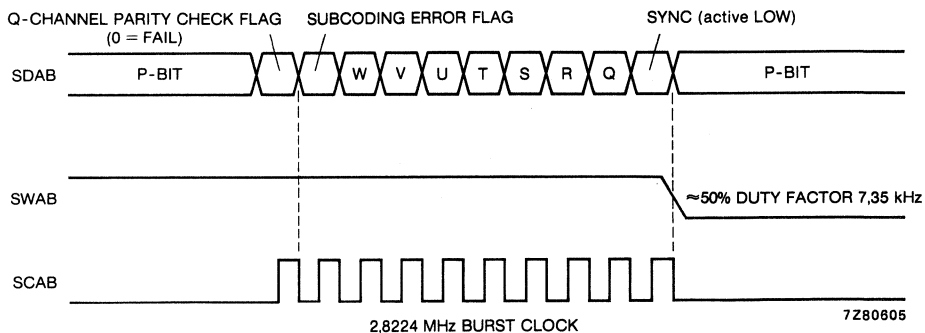

Fig. 6 Typical subcoding waveform outputs.
The serial output consists of a burst of 10 bits of data clocked by a burst clock (SCAB). The 10 bits are made up from subcoding signal bits Q to W, the Q-channel parity check flag, a demodulator error flag and the subcoding sync signal. At the end of the clock burst this output delivers the debounced P-bit signal which can be read externally in the rising edge of SWAB at pin 33 (42); see Fig. 6.